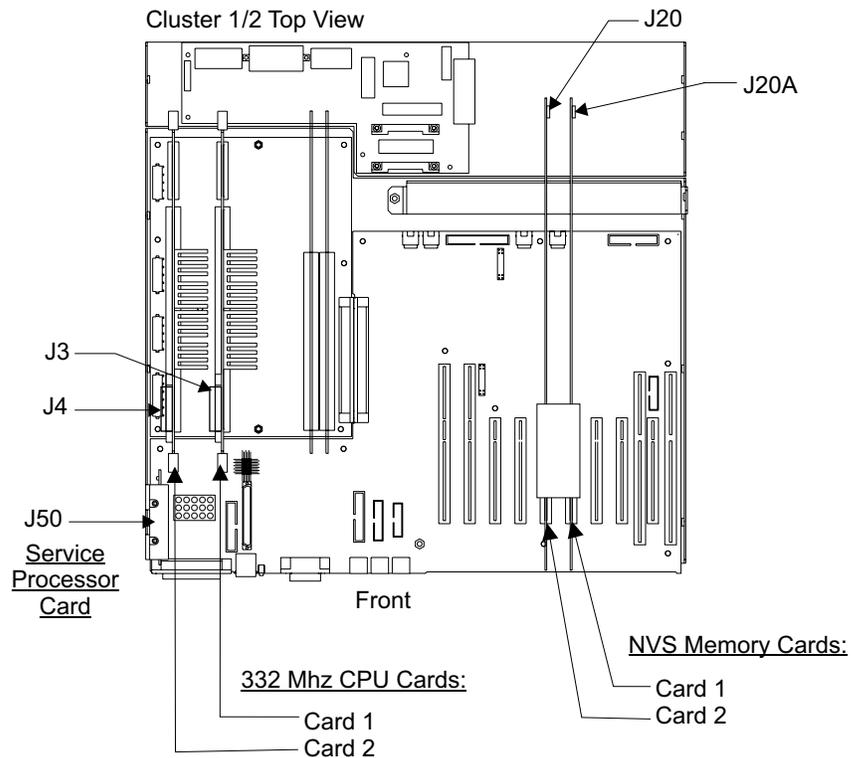

Figure 209. Cluster Bay Card Connector Locations (S008650n)
- Cluster Bay Card Connector Locations, Figure 209 on page 199